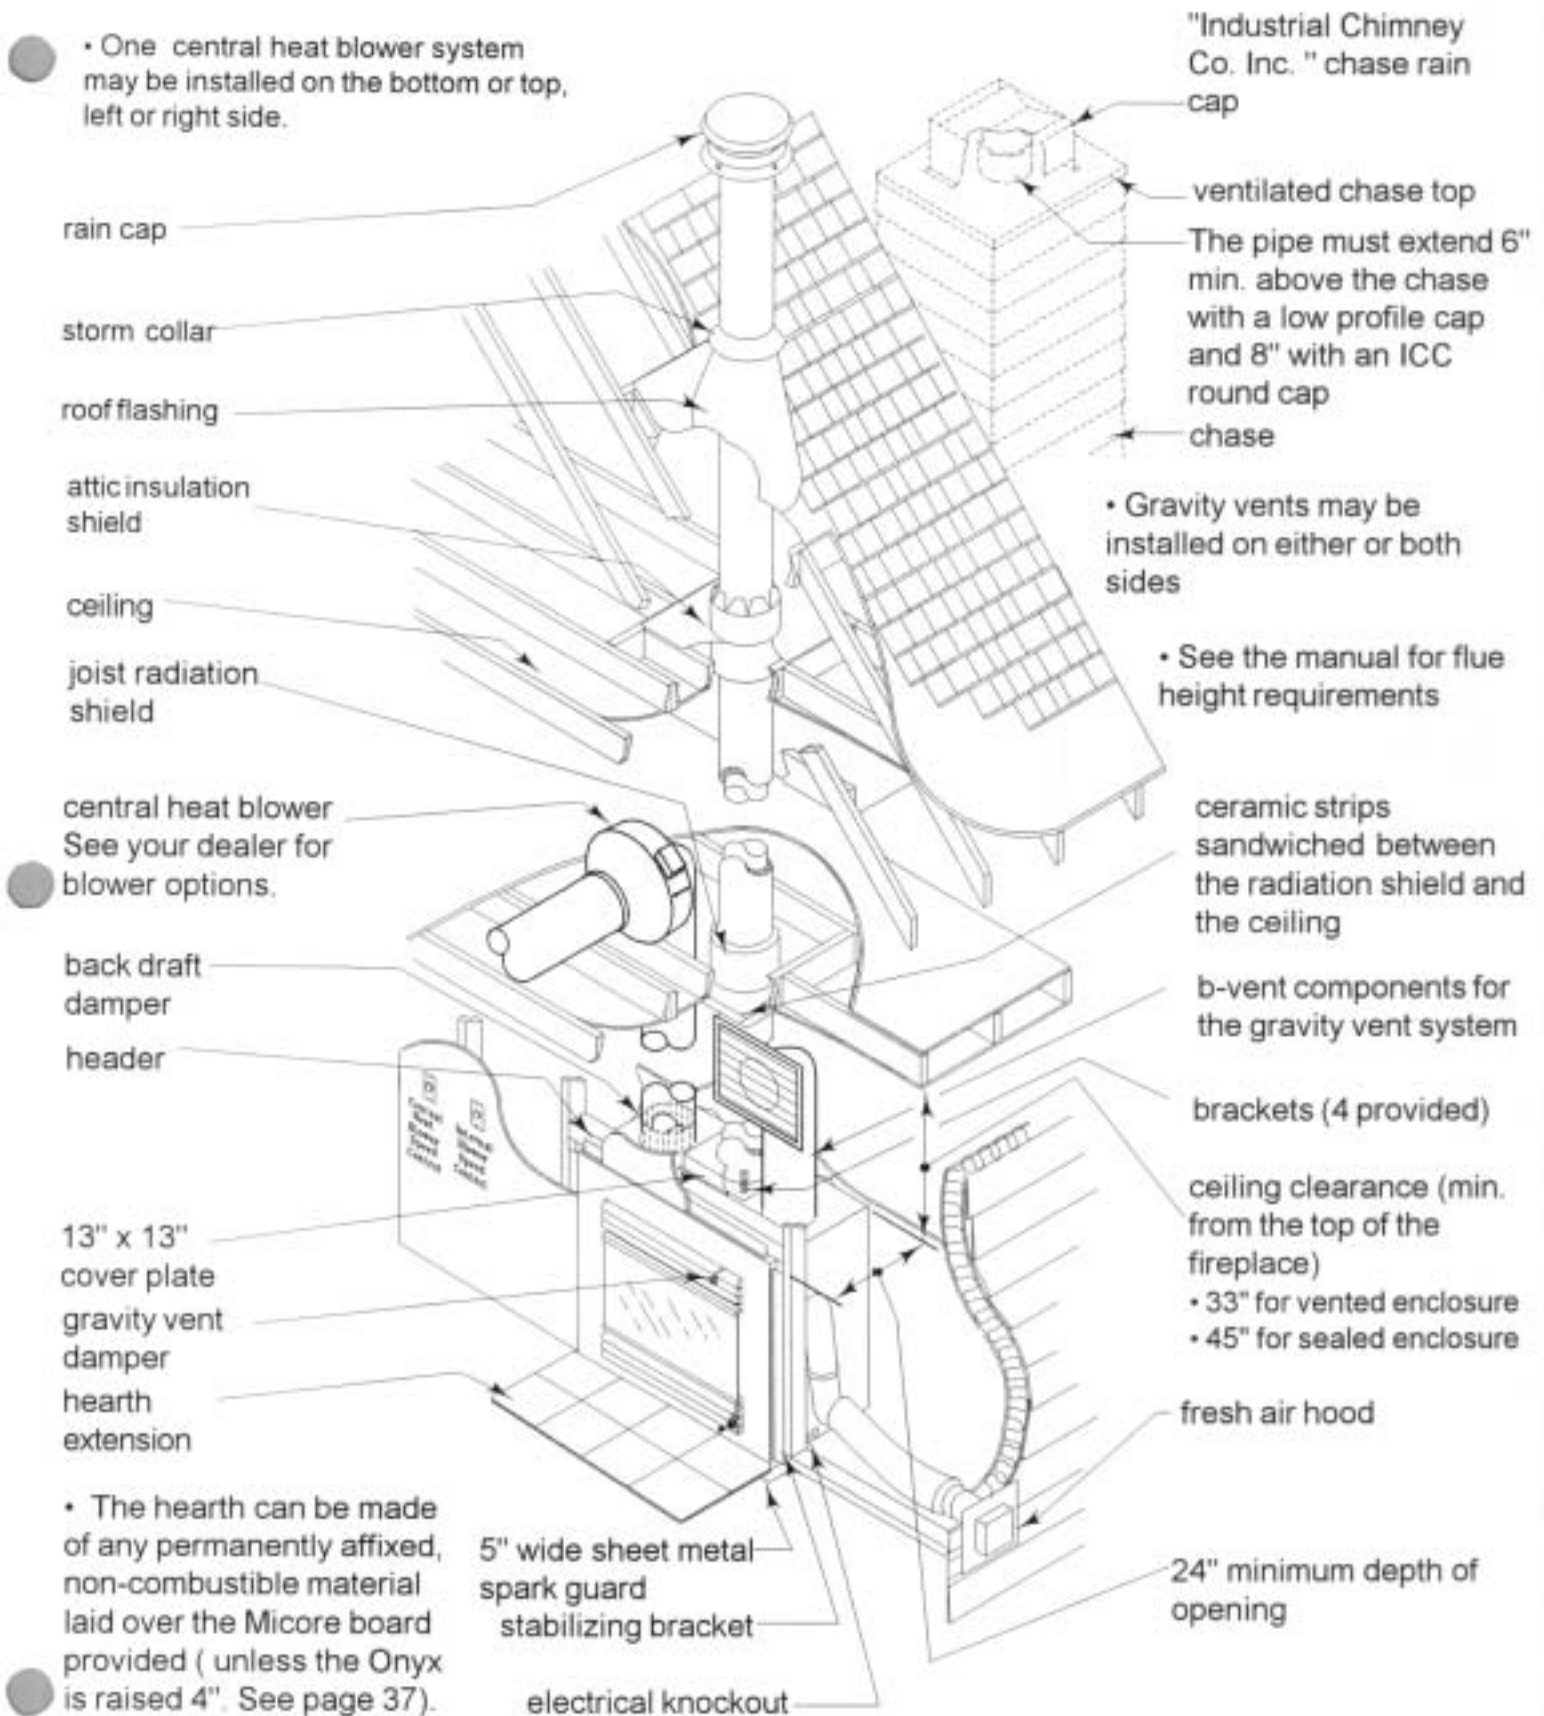

Figure 3: General assembly
If the space between the top of the fireplace and the ceiling joists is less than 45 inches, the enclosure around the fireplace **MUST** be vented. Place a minimum 3" X 10" vent grille into holes cut within one foot of both the floor and ceiling levels, to allow room air to circulate through the fireplace enclosure and reduce heat build-up. These vent grilles may be placed vertically or horizontally. Under no circumstances is the distance between the first firestop and the top of the unit to be less than 33 inches (See Figure 3).
1. Find a convenient location for the combustion air duct and register. The location of the register may be below or above floor level (See Figure 3 - General Assembly). If necessary, air may be taken from inside the home. However, air taken from inside the home must be taken from floor level or below. Check local codes to confirm whether combustion air from inside the home is allowed.